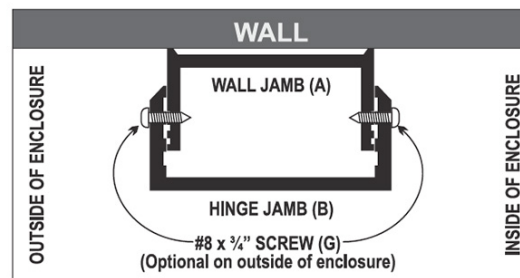

FIGURE 11
Install three #8 x 3/4" SelfTapping Screws (G) into the pilot holes drilled. (See Figure 11)
These are not necessary, but highly suggested to eliminate any movement during usage. Using a 1/8" drill bit, drill two pilot holes through both the Hinge Jamb (B) and the Wall Jamb (A) centered vertically with the Door Hinges (C). (See Figure 11 and 12)